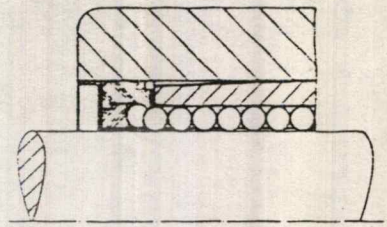

Figure 5: Retention by means of metal "case" for STAR Standard and Super Linear Bearings: see Table 27, STAR Segmental Linear Bearings: see Table 18 and 20
- metal spacer (Figure 5)
- wiper seal with metal spacer or metal spacer only (Figure 5)